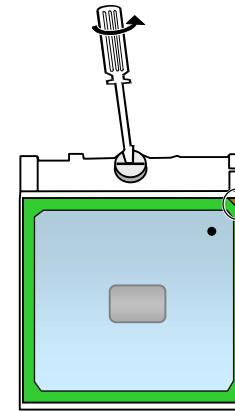

Figure 2-9 Remove the CPU
5. To remove the existing CPU, Loosen the screw by a flat screwdriver, upraise the CPU socket to unlock the CPU. (Figure 2-9)